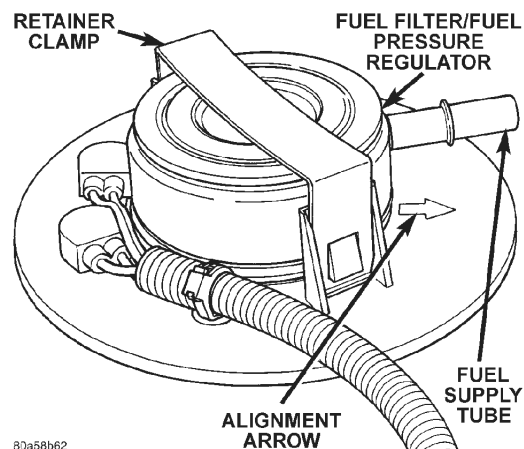

Fig. 22 Fuel Filter/Fuel Pressure Regulator
(1) Remove fuel tank. Refer to Fuel Tank Removal/Installation.
(2) Clean area around filter/regulator.
(3) Disconnect fuel line at filter/regulator. Refer to Quick-Connect Fittings in this group for procedures.
(4) Remove retainer clamp from top of filter/regulator (Fig. 22). Clamp snaps to tabs on pump module. Discard old clamp.
(5) Pry filter/regulator from top of pump module with 2 screwdrivers. Unit is snapped into module.
- (1) Clean recessed area in pump module where filter/regulator is to be installed.
- (2) Obtain new filter/regulator (two new o-rings should already be installed).
- (3) Apply a small amount of clean engine oil to o-rings. **Do not install o-rings separately into fuel pump module. They will be damaged when installing filter/regulator.**
- (4) Install new gasket to top of fuel pump module.
- (5) Press new filter/regulator into top of pump module until it snaps into position (a positive click must be heard or felt).
- (6) The molded arrow (Fig. 22) on top of fuel pump module should be pointed towards front of vehicle (12 o'clock position).
- (7) Rotate filter/regulator until fuel supply tube (fitting) is pointed to 10 o'clock position.
- (8) Install new retainer clamp (clamp snaps over top of filter/regulator and locks to flanges on pump module).
- (9) Connect fuel line at filter/regulator. Refer to Quick-Connect Fittings in this group for procedures.
- (10) Install fuel tank. Refer to Fuel Tank Removal/Installation.
- (1) Using a new gasket, position fuel pump module into opening in fuel tank.
- (2) Position locknut over top of fuel pump module.
- (3) Rotate module until arrow (Fig. 22) is pointed toward front of vehicle (12 o'clock position). This step must be done to prevent float/float rod assembly from contacting sides of fuel tank.
- (4) Install Special Tool 6856 to locknut.
- (5) Tighten locknut to 62 N·m (45 ft. lbs.) torque.
- (6) Rotate fuel filter/fuel pressure regulator until its fitting is pointed to 10 o'clock position.
- (7) Install fuel tank. Refer to Fuel Tank Installation in this section.